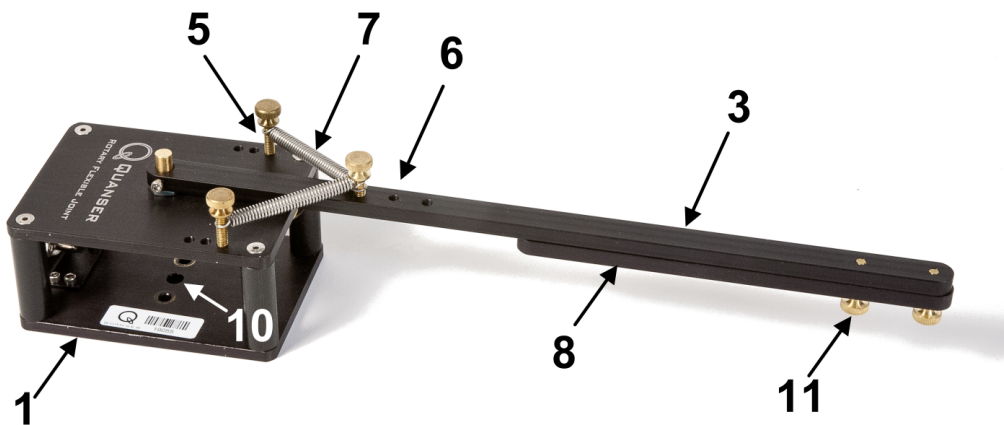
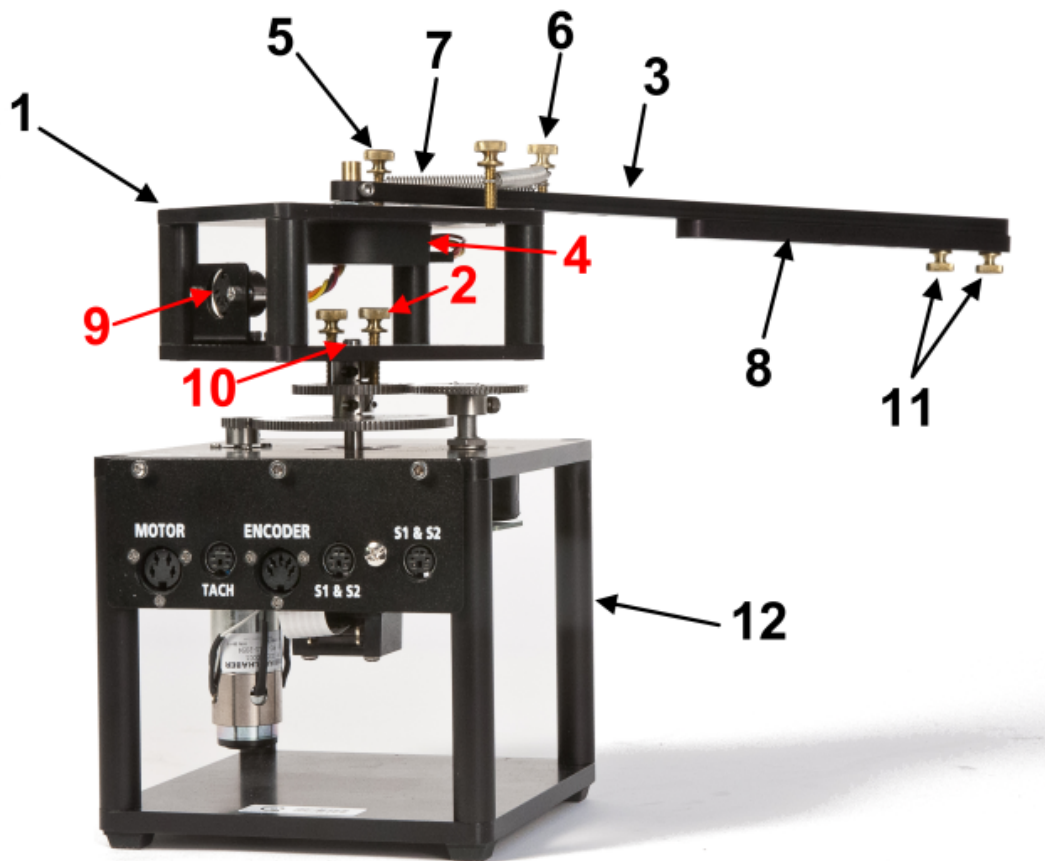

Figure 2.1: ROTFLEX Components - Top View
Figure 2.2: ROTFLEX Components - Back View when installed on SRV02
The components of the Rotary Flexible Joint module are listed in Table 2.1 below and labeled in Figure 2.1 and Figure 2.2.
1. Take both springs (make sure they are of the same pair) and insert the thumbscrew through the ends of both springs. Screw the thumbscrew into the desired point on the anchor arm (ID #6) in Figure 2.1.
2. Turn the arm towards you and screw in one side's thumbscrew into the desired base anchor point (ID #5) in Figure 2.1.
2. Rotate the ROTFLEX arm, component #3 in Figure 2.1, slightly back-and-forth and verify that you are obtaining a reading.